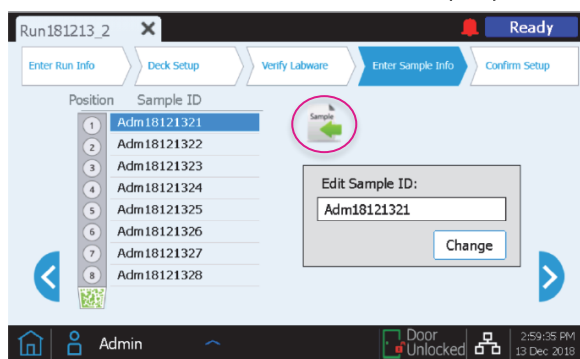

Figure 18. *Edit Sample Info* screen of the Magnis NGS Prep System, with a circle highlighting the load samples button.
- When setting up the run, on the *Enter Sample Info* screen, press the load samples button [highlighted with a circle in Figure 18].